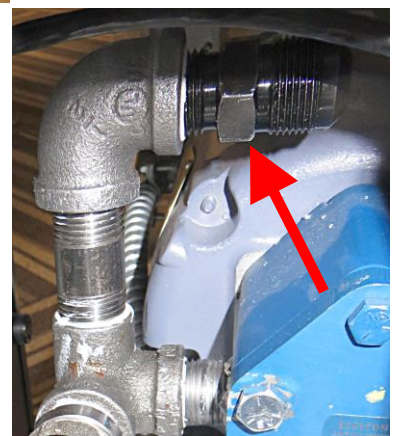

Figure 63
61. Attach the 90° elbow (8130062) to the top of the nipple in the previous step. Orient and tighten as shown (see Figure 63).
62. Attach flexline adaptor (8101668) to elbow in previous step and orient as shown (see Figure 63).